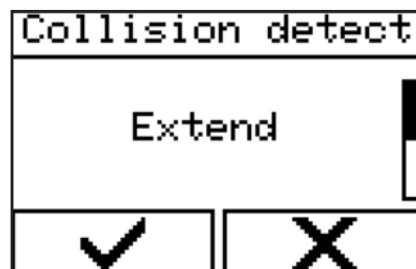

Figure 110 - Selecting the direction of travel
2. Select the direction of travel 'Extend' or 'Retract' (in this case: 'Retract', Figure 110).